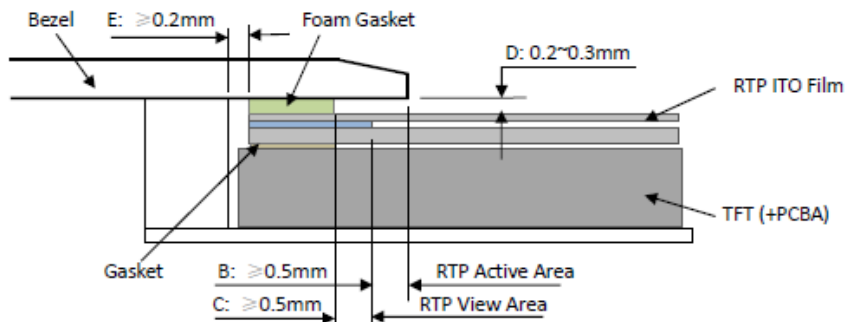

Figure 4
- It should bezel touching the RTP Active Area (A.A.) to prevent abnormal touch.It should left gab $D=0.2\sim 0.3\text{mm}$ in between. (Figure 4)
- Outer bezel design should take care about the area outside the A.A. Those areas contain circuit wires which is having different thickness. Touching those areas could de-form the ITO film. As a result bezel the ITO film be damaged and shorten its lifetime. It is suggested to protect those areas with gasket (between the bezel and RTP).The suggested figures are $B\geq 0.50\text{mm}$; $C\geq 0.50\text{mm}$. (Figure 4)
- The bezel side wall should keep space $E= 0.2 \sim 0.3\text{mm}$ from the RTP. (Figure 4)
- 为避免面框直接压在动作区(A.A.)上造成误动作，面框与电阻触摸屏(RTP)之间应留有一定的空隙 $D=0.2\sim 0.3\text{mm}$ 之间。(附图4)
- 设计面框时，要注意用面框保护触摸屏四周的非保证操作区域，因为布线区域在此处形成一台阶，在此区域附近操作时ITO Film变形较大，容易导致ITO损坏而降低寿命。为保护RTP和避免误操作，在RTP与面框之间垫缓冲物(Gasket)，我们建议设计面框应覆盖动作区的边缘，面框边缘到V.A.区的距离 $B\geq 0.50\text{mm}$ ；垫圈内边缘到V.A.区的距离 $C\geq 0.50\text{mm}$ 。(附图4)
- 在设计面框与RTP组装时，应考虑到面框内侧与RTP外侧的间距 $E\geq 0.2\text{mm}$ 。(附图4)